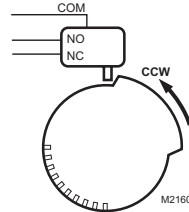

Fig. 3. Switching configuration (top view) for counterclockwise ↻ rotation.
NOTE: With switch cam as shown in Fig. 3, the normally closed contact opens during counterclockwise ↻ rotation and the normally open switch closes.
6. Move each cam inside switch assembly to the appropriate position. Remember the direction of travel of the cam for switching purposes (see Fig. 3 and 4). Monitor the switch closure with an ohmmeter for a continuity check. See Table 3.